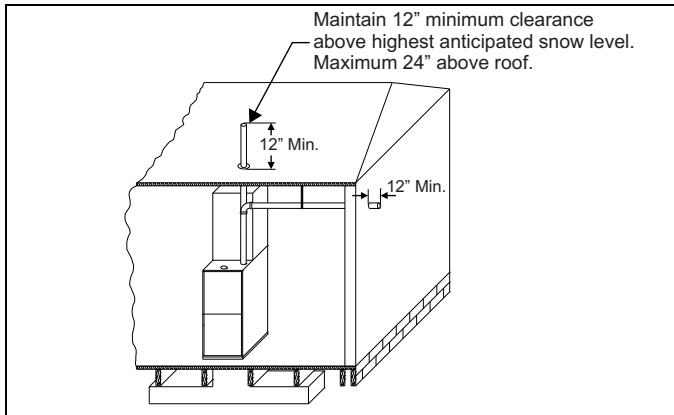
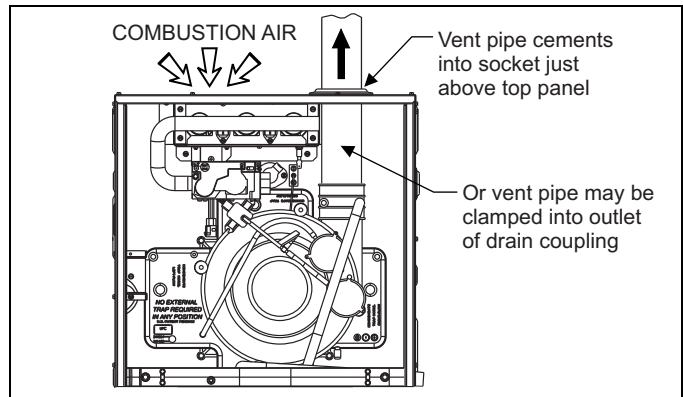

FIGURE 32: Termination Configuration - 1 Pipe
FIGURE 38: Combustion Airflow Path Through The Furnace Casing
The combustion air side of the single pipe configuration shown in Figure 32 is referred to in these instructions as ambient combustion air supply. Follow the instructions for ambient combustion air installations, paying particular attention to the section on air source from inside the building. The vent for a single pipe system must be installed as specified in the venting section of these instructions with the vent terminating as shown in Figure 32. Each furnace must have a separate vent pipe. Under NO circumstances can the two vent pipes be tied together.
2. **AMBIENT COMBUSTION AIR:** Combustion air is supplied from the area surrounding the furnace through openings in the furnace casing. The combustion air and the vent pipes are not terminated in the same atmospheric zone. Refer to Figure 32 for vent terminations. Refer to "Ambient Combustion Air Supply" for proper installation. Refer to Figure 38.